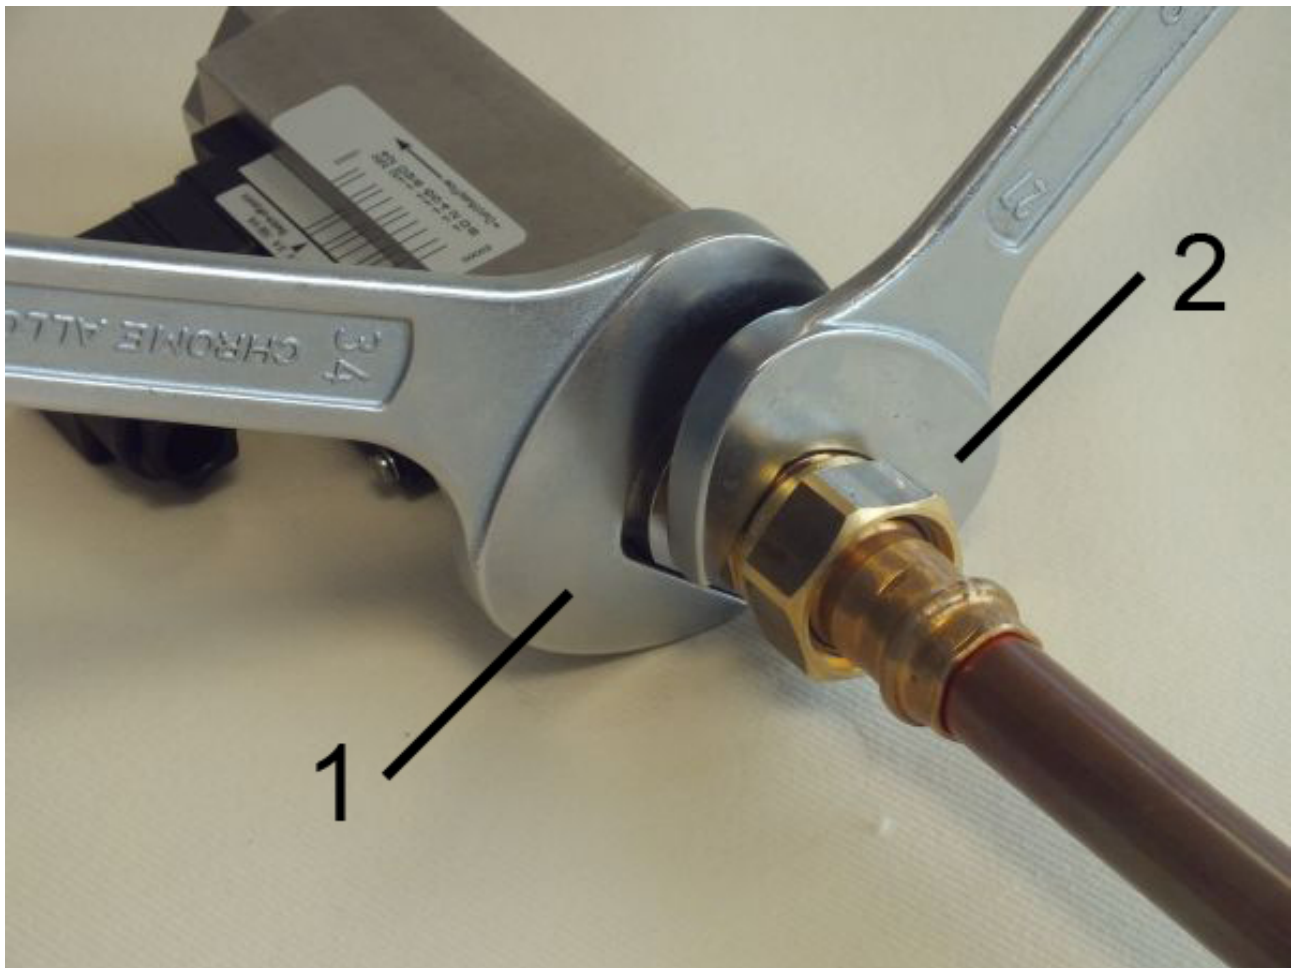

Fig. 11: Screw in the device
2. ➡ Fasten the adapter union of the pipeline with an appropriate spanner (*Fig. 11/2*). When doing so, lock the process connector in place to prevent slip, using a suitable spanner (*Fig. 11/1*).